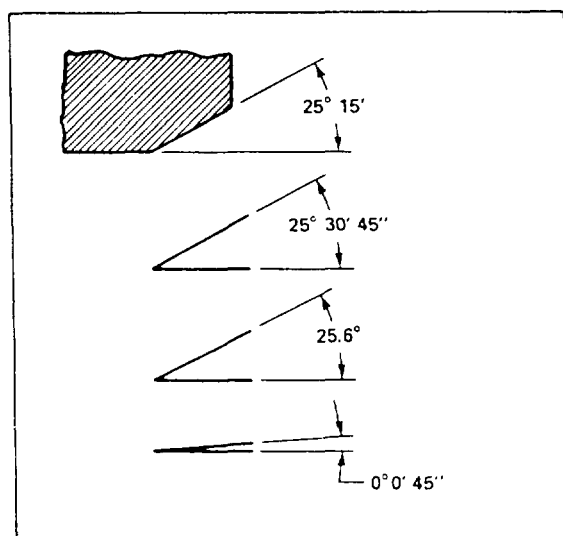

Figure 10-3. Dimensioning angular units.
Similarly, dimensions for angular units are expressed in either degrees and decimal parts of a degree or in degrees, minutes, and seconds. Refer to figure 10-3 for guidance, as applicable.
3. An angle is to be dimensioned with an arc drawn so that its center is at the apex of the angle and the arrowheads terminate at the extension of the two sides, as shown in figure 10-3.